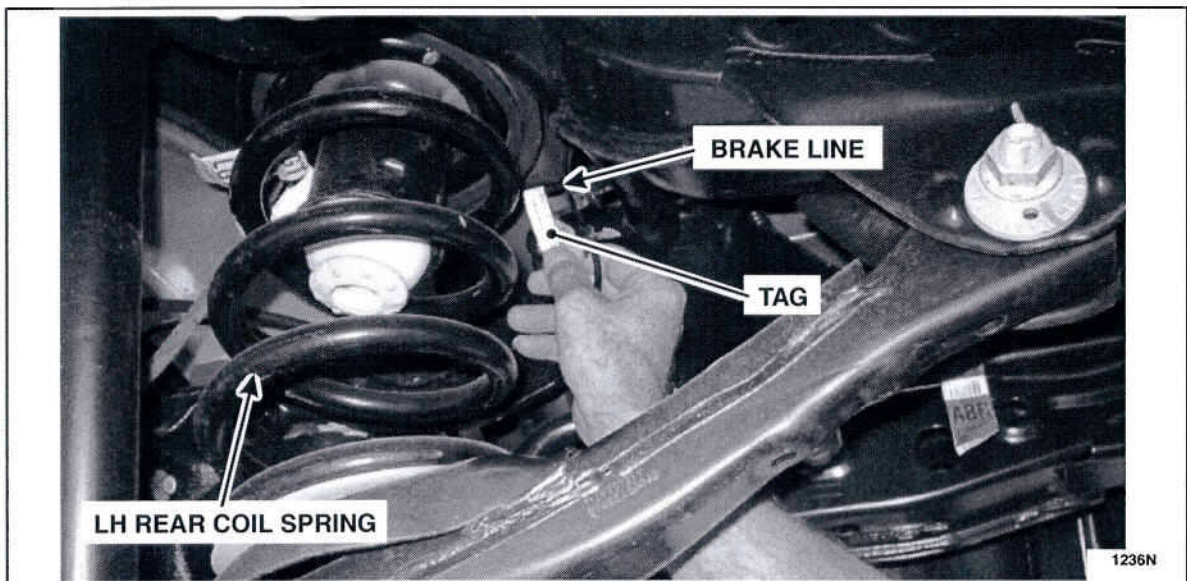

FIGURE 1
2. Locate the fuel/brake line bundle tag located on the LH brake line just forward of the LH rear coil spring. See Figure 1.